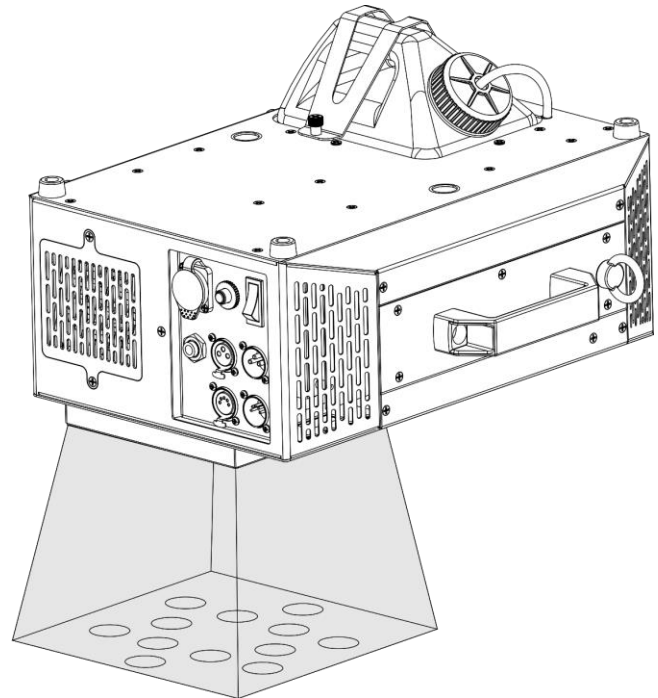

Fig. 25
- 20) Now, you can use your device in the upside-down position, as shown in Fig. 25.